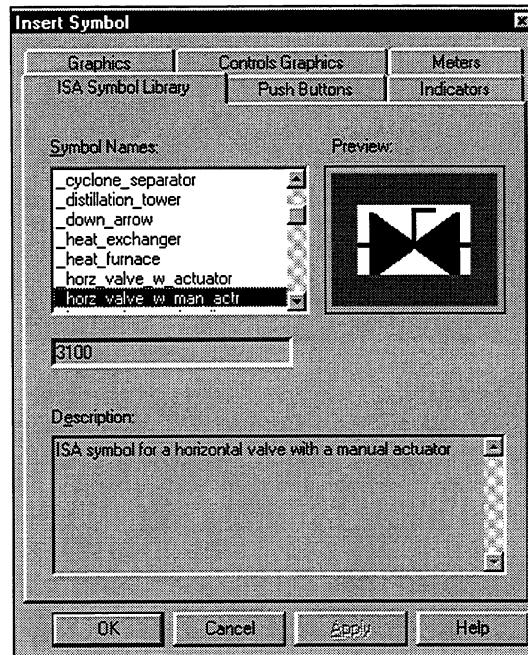

Figure 4-6. Insert Symbol Dialog Box
3. Click on the ISA Symbol Library tab then click on the `_horz_valve_w_man_act` symbol. Note that a preview of the symbol appears in the Preview window and a description displays in the Description box, as shown in Figure 4-6.